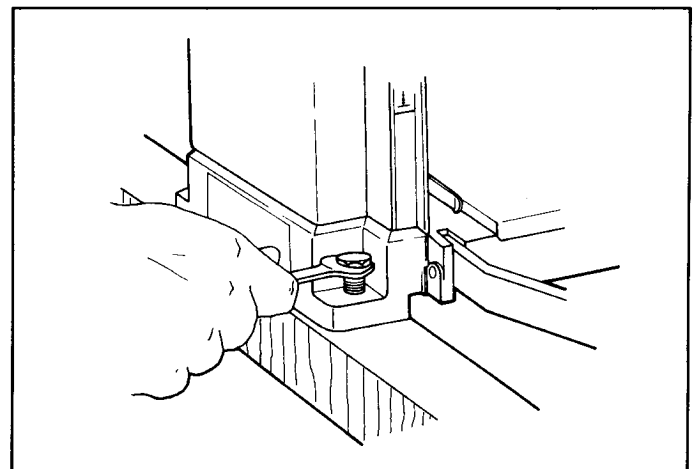

Figure 1
3. Secure the wood runners to the planer with the lag bolts (Figure 1). Tighten the lag bolts securely, but be careful not to overtighten.